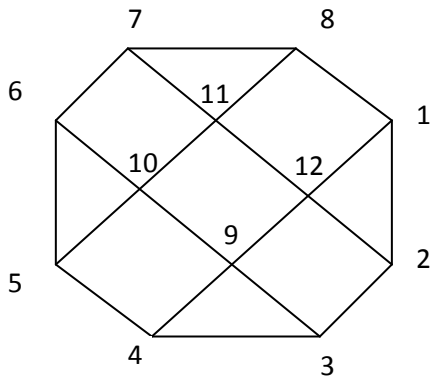

Figure 10a
5. (a) Two plates shown in Figure 10a and 10b, shall be analysed as a plane strain problem. Both plates are divided into 9 elements. Each nodes has been labelled accordingly. Calculate the bandwidth, $B = (R+1)$ NDOF for the plate assuming two degrees of freedom at each node.